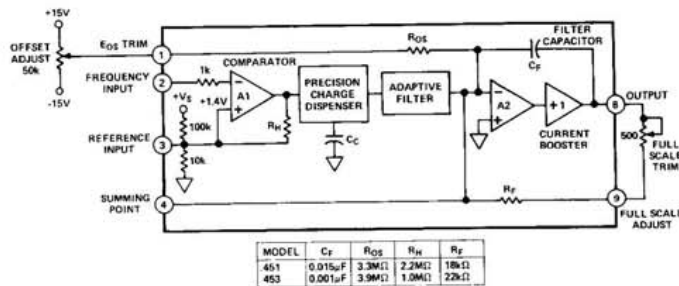

Figure 1. Block Diagram – Models 451 & 453 F/V Converters
Models 451 and 453 accept virtually any signal waveshape providing accurate conversion into an output voltage proportional to the input signal frequency. The only restriction is that the input signal must remain above the threshold level for 20 $\mu$ s when using model 451, and 2 $\mu$ s when using model 453. Linear, stable conversion over four decades of input range for model 451 and five decades of input range for model 453, is achieved using a precision charge-dispensing design approach. Figure 1 represents a functional block diagram for both models 451 and 453 frequency to voltage converters.
**Adjusting Input Threshold:** The input comparator of models 451 and 453 shown in Figure 1, conditions the input signals providing protection against noisy environments as well as preventing double triggering with slow rise-time signals. Input levels up to the supply voltages,  $\pm V_S$ , will not cause damage to the input comparator.
$R_H$  (see Figure 1) and the parallel combination of all resistors attached at the comparator positive input. For example, with a  $17.6k\Omega$  resistor connected to the REF terminal, hysteresis becomes  $\pm 35mV$  for model 451 and  $\pm 75mV$  for model 453. The F/V converter will, therefore, trigger at  $+6V \pm 35mV$  for model 451 and  $+6V \pm 75mV$  for model 453.